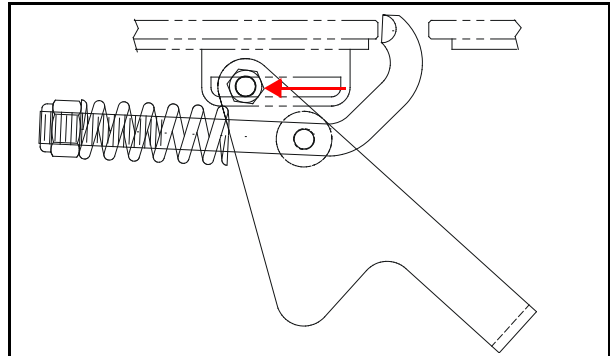

Figure 4-8 Vector-Lock Clamping Procedure
1. Pivot the handle and move the 1/4" (M6) bolt to the back of the slot in the block (Figure 4-8).
3. Remove the hook from the screen, as shown in Figure 4-8.
3. Remove the hook from the screen as shown in Figure 4-8.